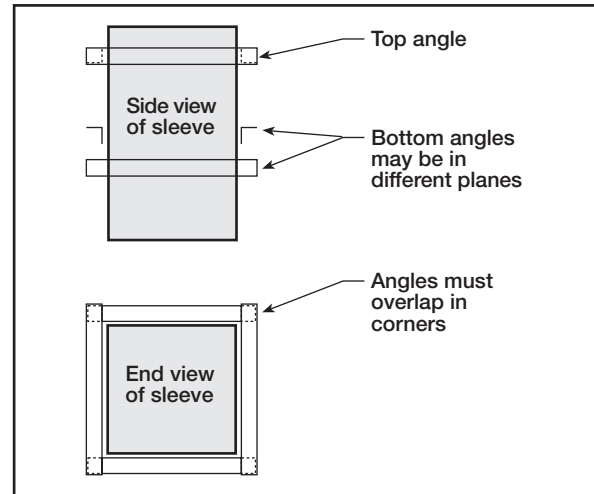

Figure 2: Retaining angle installation.
3. When viewed from end of sleeve, the angles must overlap each other in the corners such that no sight-through is possible (see Figure 2).